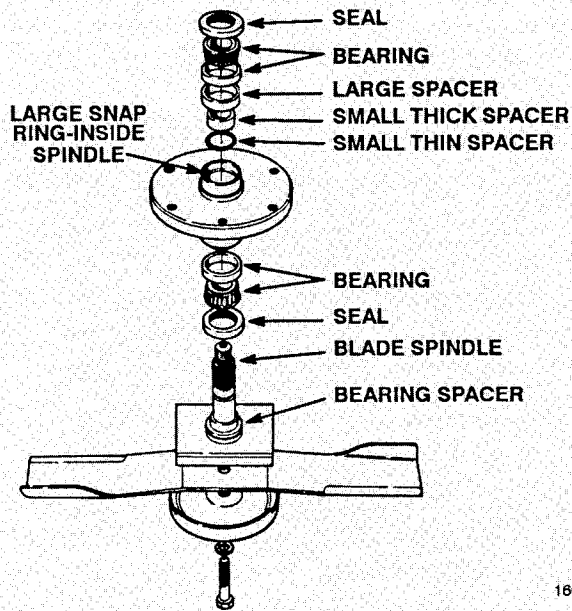
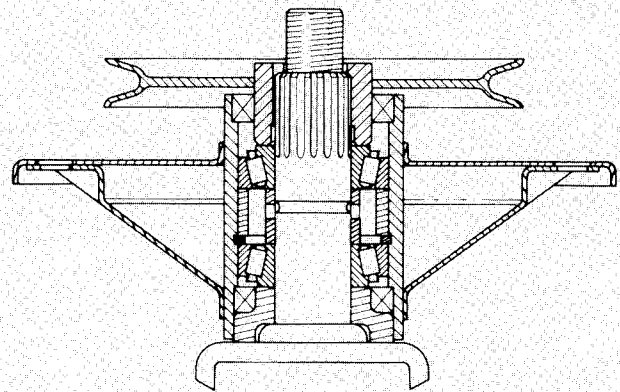
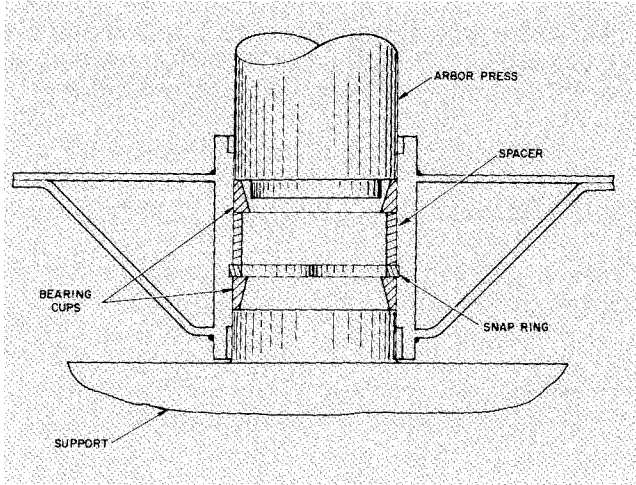

Figure 22
Figure 23
Figure 24
5. If spindle shaft will be replaced, move bladebolt, lockwasher, anti-scalp cup and blade from spindle shaft (Fig. 22). Otherwise, the blade and its other associated parts may be left on the spindle shaft.
6. Press spindle shaft out of spindle housing (Fig. 22) using an arbor press. Bearing spacer (Fig. 22) remains on spindle shaft as shaft is being removed.
7. The seals (Fig. 22) will be removed next; however, notice the lip of the seal. The lip of the upper seal faces inward, and the lip of the lower seal faces outward. Therefore, new seals must always be installed with the lip facing in the proper direction. Now remove seals from spindle housing.
8. Allow bearings, small thick and small thin spacers to fall out of spindle housing (Fig. 22).
9. Using a punch and hammer, drive both bearing cups (Fig. 22) out of spindle housing. Also drive large spacer (Fig. 22) out of housing.
1. Install large snap ring into groove in bore of spindle housing (Fig. 23). Assure snap ring is seated in the groove.
2. Using an arbor press, push the large spacer into top of spindle housing and tightly against the snap ring (Fig. 22). Spacer must contact snap ring to be sure of correct assembly of parts (Fig. 23).
3. Thoroughly oil cups and using an arbor press, push bearing cups — smallest ID first — into top and bottom of spindle housing (Fig. 22). Top bearing cup must contact spacer that was installed in step 2, and
bottom bearing cup must contact snap ring to be sure of correct assembly of parts (Fig. 23). Insure assembly is correct by supporting the first cup and pressing the second against it (Fig. 24).
4. Apply a film of grease on lip of both seals; then install bearing and seal into bottom of spindle housing (Fig. 23). Remember though, the bottom seal must have the lip facing outward (Fig. 22) not toward inside of spindle housing.
5. Slide small thick and small thin spacers into spindle housing (Fig. 22). Then, install bearing and seal into top of spindle housing. Lip of the seal must face outward.
7. Slide bearing spacer onto spindle shaft. Carefully slide spindle shaft through spindle housing. Bottom seal and gearing spacer fit together when spindle is installed (Fig. 23).